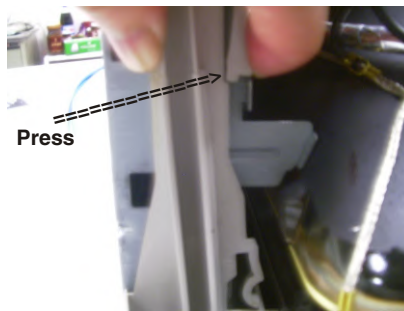
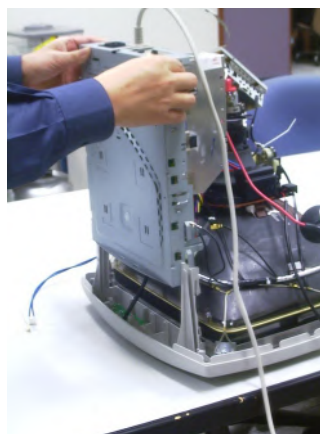

Fig. 10
Fig. 14
- Remove main panel with bottom tray as shown in Fig. 10 to Fig. 14.